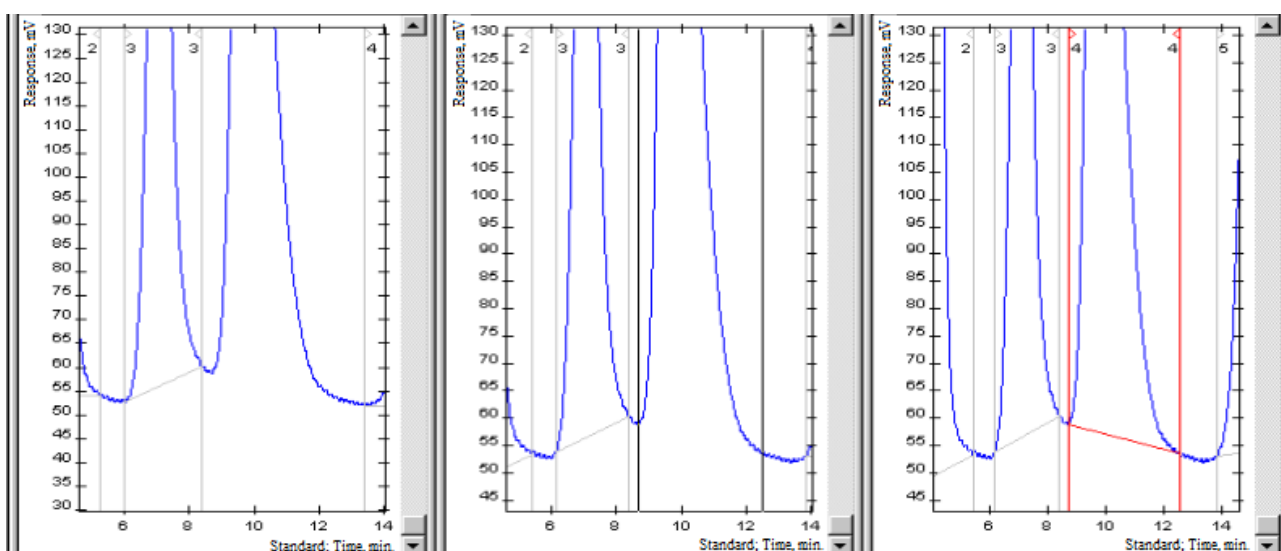

Fig. 55: 1) Initial marking. 2) New peak boundary identification. 3) Result.
2. In the chromatogram, mark the peak start and end boundaries (Fig. 55).